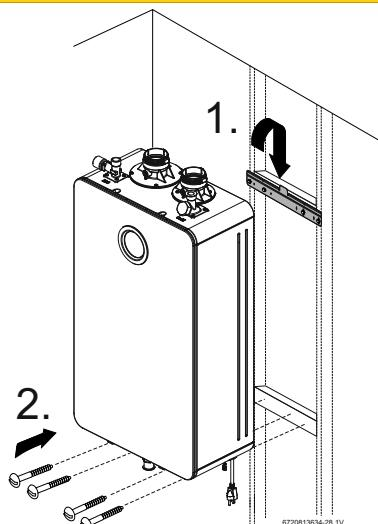

Fig. 9 Mounting the heater
- Hang the appliance on the bracket, see fig. 9, page 18.